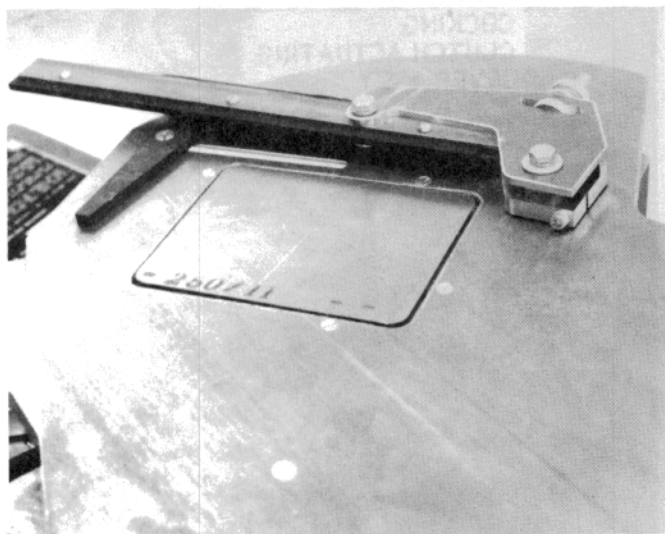

Figure 63 — Throwing Arm Cocked Position
- 5.1.4 Pull the throwing arm to the correct cocked position. (The correct cocked position is where the rubber rail is parallel with the long slot in the platform shown in Figure 63).